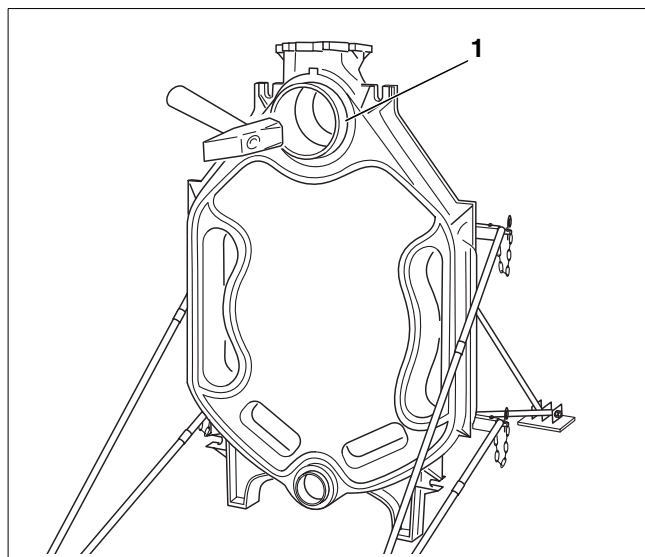

Fig. 11 Hammering in nipples
- Fit the nipples squarely into the upper (size 4, 181/70) and lower (size 1, 82/50) nipple ports in the rear section and, working diagonally, hammer them in with powerful blows until they seat. After they have been hammered home, the upper nipple (Fig. 11, **ref. 1**) should project from its nipple port by about 45 mm and the lower one by about 35 mm.